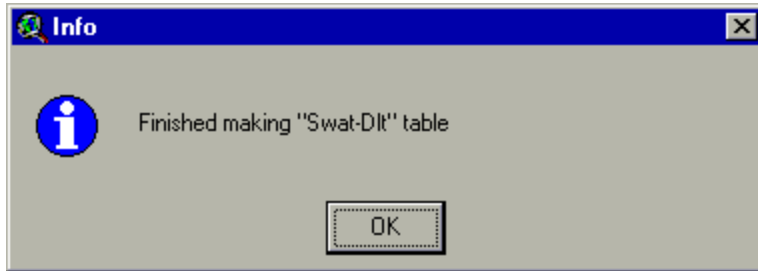

Figure 13.49
5. A message box is displayed when the table is made (Figure 13.49).